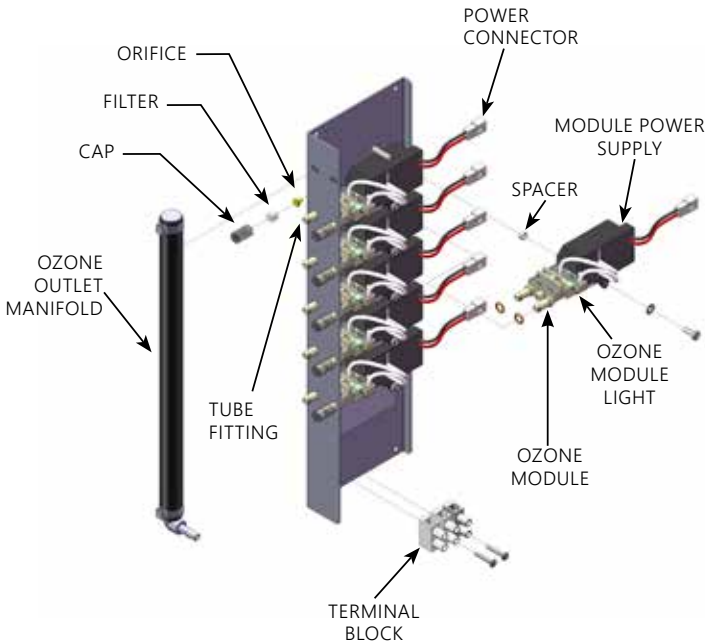

Figure 5: Ozone Generator Subassembly
Connect the DEL AOP 50 to the pool timing clock so that the DEL AOP 50 operates simultaneously with the pool pump. The DEL AOP 50 has four available Knockouts for a 1/2" conduit fitting, two on the back and one on each side. Remove only the ideal Knockout for the installation and install the proper conduit fitting. Remove the Cover (Refer to **SECTION 4C-1**) and locate the Terminal Block (Refer to **Figure 5**) on the left side of the enclosure. Connect Line 1, Line 2, and Ground to the Terminal Block as indicated by the label on the Generator Bracket. Refer to the **IMPORTANT SAFETY INSTRUCTIONS** at the beginning of this manual for important wiring information.
The DEL AOP 50 is constructed with 6 Corona Discharge Ozone Modules. Each Ozone Module has a green light to indicate that the Ozone Power Supply is operating properly (Refer to **Figure 5** for a more detailed view).
The air entering the Ozone Modules passes through individual Filters and an Orifice on each Module inlet. The Filters and Orifices are held in place by the rubber Filter Cap. (Refer to **Figure 5** for a more detailed view)
4C. Ozone Module Servicing - Refer to *Figure 5*
7. Install the new Ozone Module by reversing the above steps. Refer to **Figure 5** for visual instruction. Do not misplace spacer.